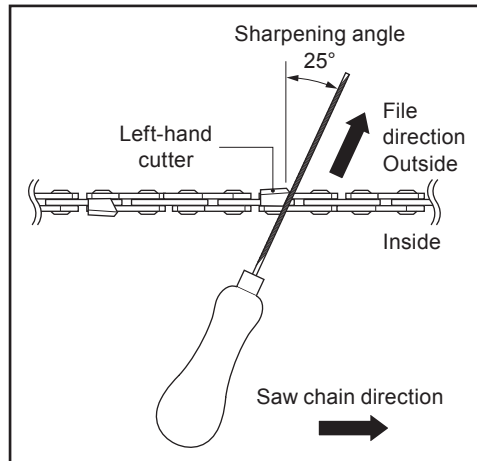

Fig. 48
5. File at an angle perpendicular to the bar, and at an angle of 25° to the direction of travel (Fig. 48).